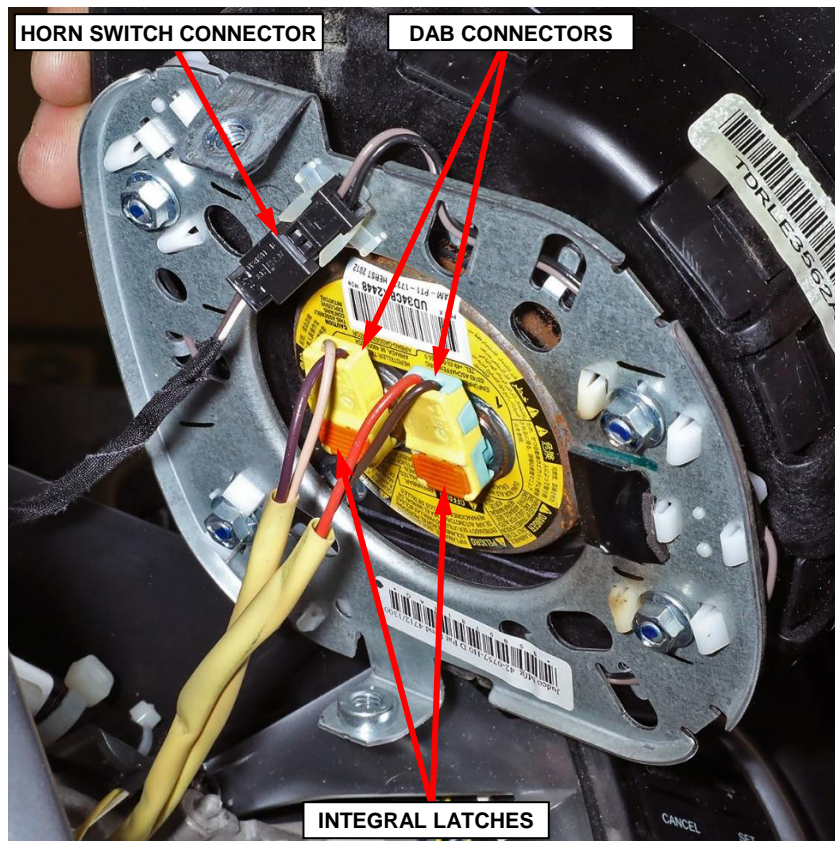

Figure 5 – Driver Air Bag
6. The clockspring DAB pigtail wire connector insulators are secured by integral latches to the air bag inflator connector receptacles, which are located on the back of the DAB housing. Pinch both latches firmly, then pull the insulators straight out from the air bag inflator to disconnect them from the connector receptacles (Figures 5 and 6).
3. Reconnect the wire connectors to the air bag inflator connector receptacles by pressing straight in on the connector insulator. Be certain to engage each keyed and color-coded connector to the matching connector receptacle. You can be certain that each connector is fully engaged in its receptacle by listening carefully for a distinct, audible click as the connector latches snap into place (Figures 5 and 6).